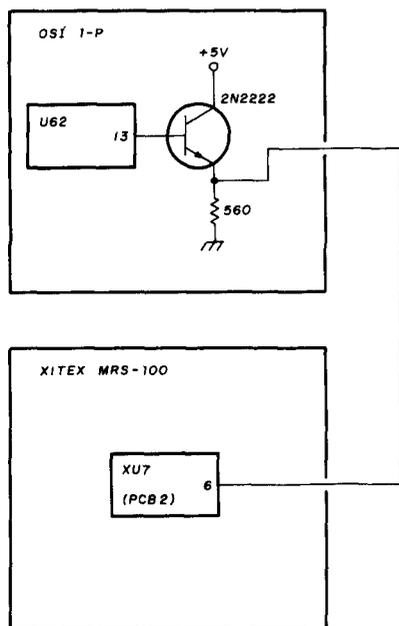

fig. 1. The display is echoed in Morse code.
Referring to the schematic of **fig. 1**, you will note a full-wave bridge circuit. This may not be consistent with the secondary voltage of your transformer. You
There are a number of circuits that will prevent this from happening. The one I prefer is to place a heating element in series with one side of the high-voltage transformer primary. This added resistance absorbs inrush current. This resistor in my supply (R1 in **fig. 1**) is shorted out by the relay contact of RY4 about a half second after RY2 activates. The timing of this half second is controlled by the time constants of the resistors and capacitor in the base circuit of the 2N2222 transistor. I believe these resistor elements can be purchased at most electrical supply houses and are available in both 120- and 240-volt versions. A very heavy duty relay (RY2) should be used in the high-voltage transformer primary circuit. A third set of contacts on this relay is used to furnish 24 volts to other parts of the circuit at the proper time.
Referring to **fig. 1**, let's follow carefully through the complete sequence of events that occur when the main power switch is thrown. Activating the main power switch, S1, applies 120-volt and 240-volt single phase power to the supply. One hundred twenty volts is immediately applied to the 24-volt dc relay supply and blower. The air flow switch comes on, activating RY1. One set of RY1's contacts apply 120 volts primary power to tube-heater transformer T2, and a pilot light on the rf deck indicates the heaters are on. Resistor R2 in the transformer primary is used to adjust the voltage at the tube heater pins to the correct value. A second set of RY1's contacts makes 24 volts dc available at various relay coils and contacts, including the high-voltage primary relay RY2. RY3's field coil and contacts receive 24 volts, but the relay does not activate at this time.
From WD8DTL we borrowed a Xitex MRS-100 Morse-code transceiver and connected it to the OSI as in **fig. 1**; the computer and Xitex now communicated through TTL levels.
5. Connect a 1-watt, 100-ohm resistor between the two white wires just removed and the AUD OUT terminal (**fig. 1**). Use insulation tubing.